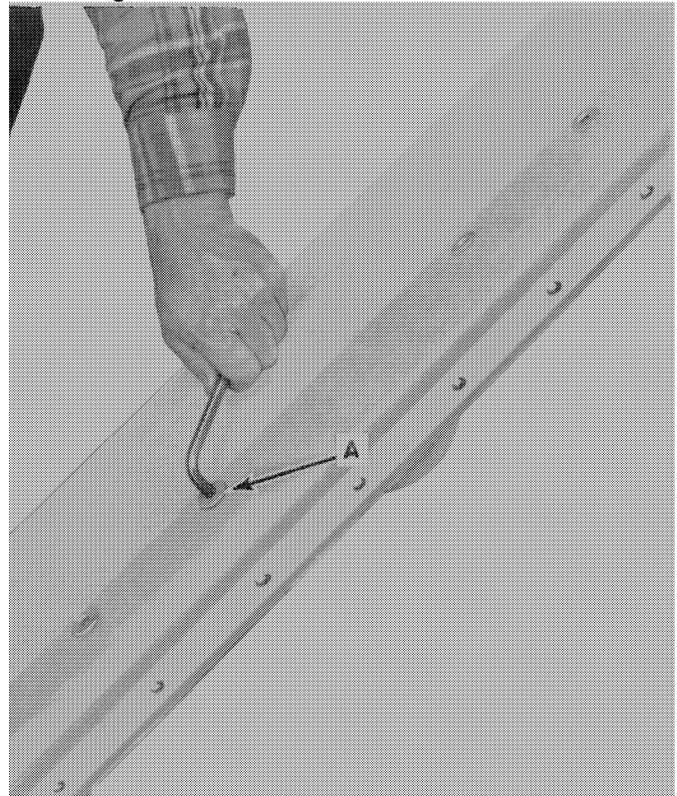

FIGURE 9
5. Remove all the allen head stub bolts on the bottom side of cutter bar as shown at A, Figure 9.